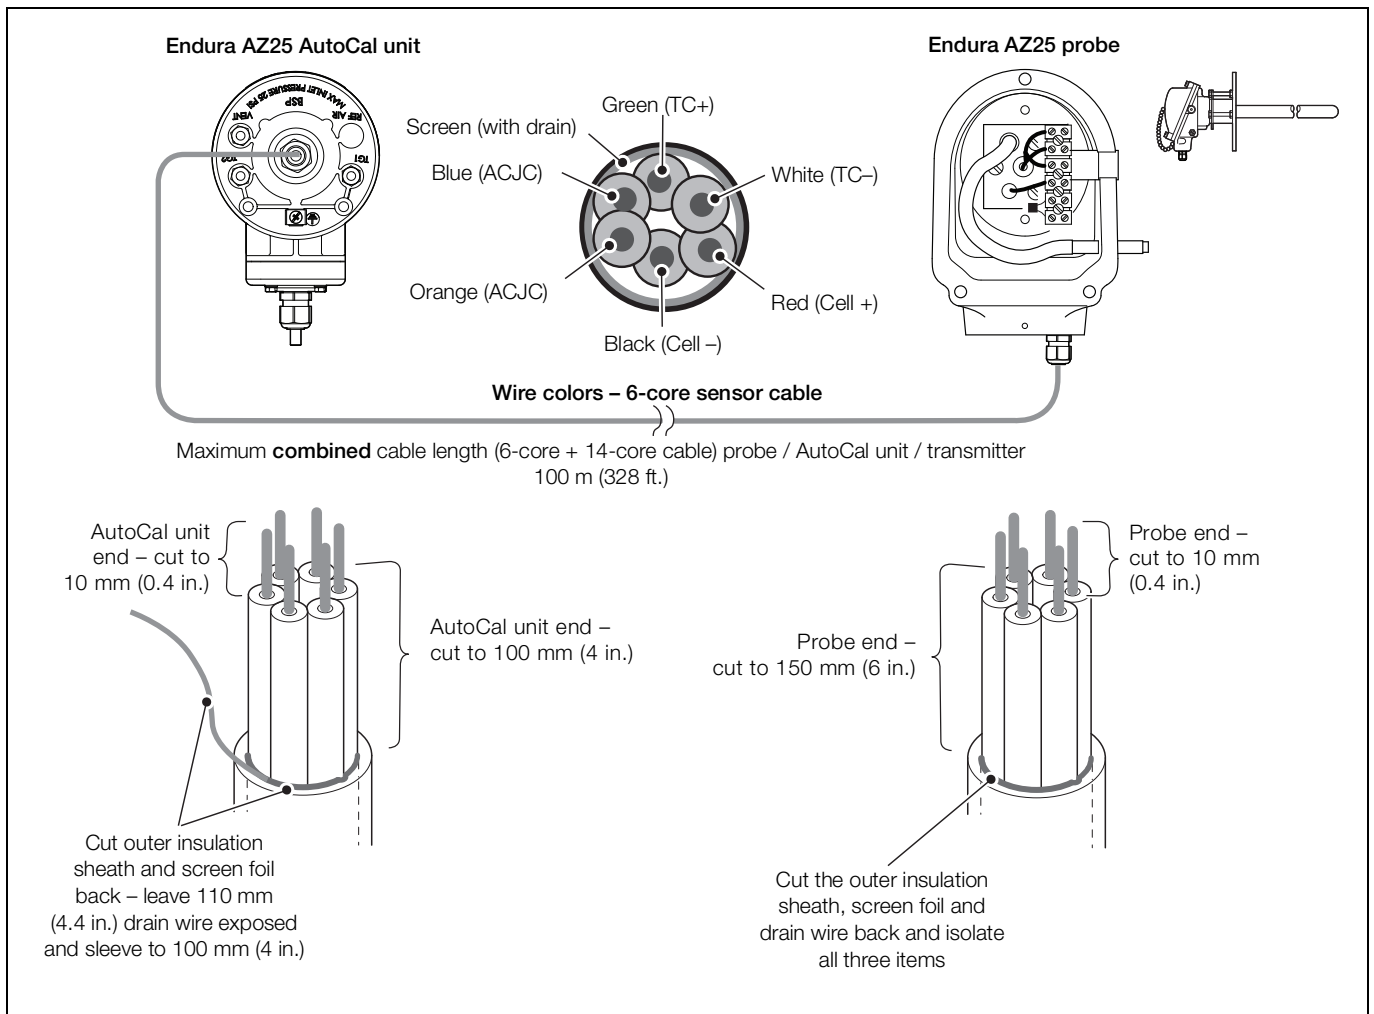

Fig. 4.3 Cable preparation – 6-core sensor cable / Endura AZ25 AutoCal unit to Endura AZ25 probe
- 6-core cable: Endura AZ25 probe to Endura AZ25 AutoCal unit only – see Fig. 4.3
- 6-core cable at Endura AZ25 probe: outer insulation sheath, screen foil and drain wire cut back and isolated – see Fig. 4.3
- 6-core cable at Endura AZ25 AutoCal unit: outer insulation sheath and screen foil cut back and isolated, drain wire connected to AutoCal unit inner terminal block SCN connector – see Fig. 4.3